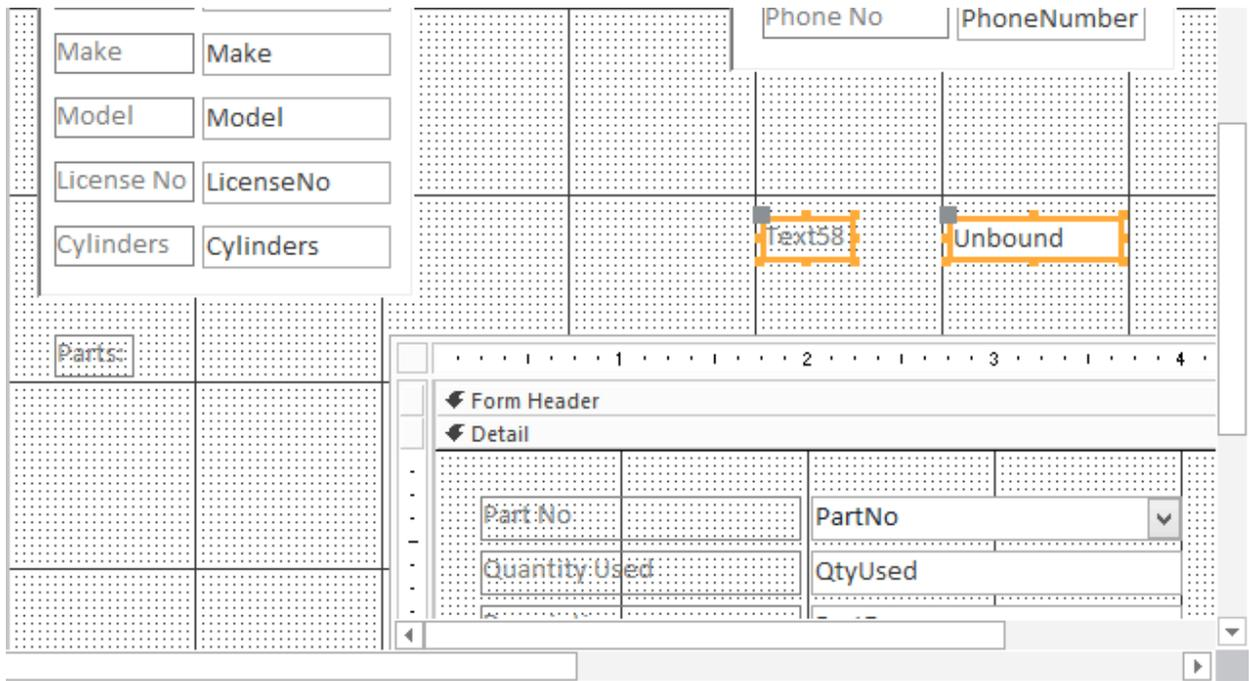

Figure 28: Adding a Textbox to the Main Form
1. Add a Textbox to the Main Form: Place a new textbox on the main form directly above the subform, as depicted in Figure 28.